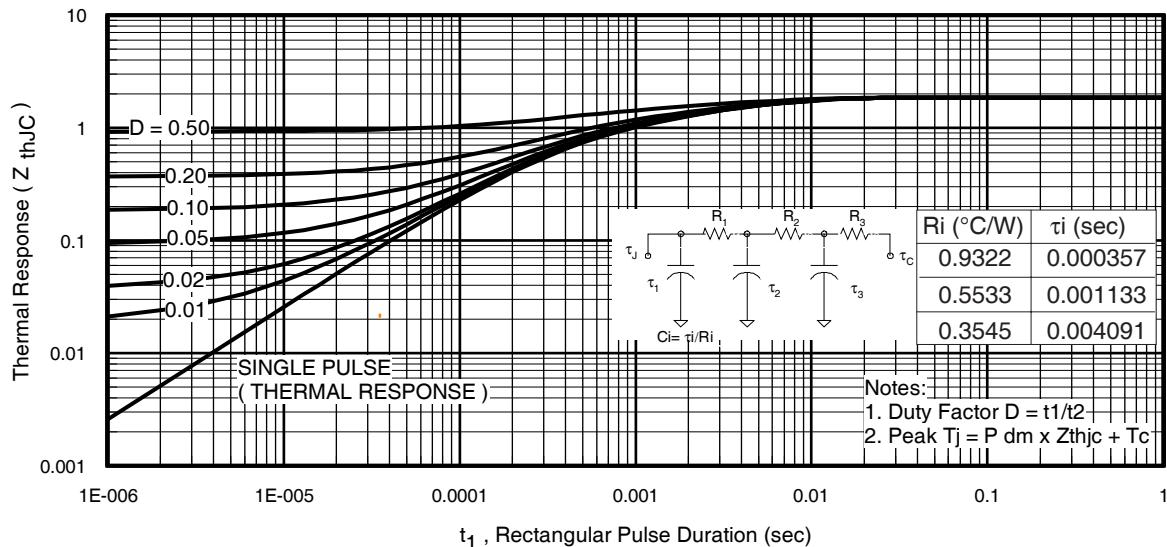
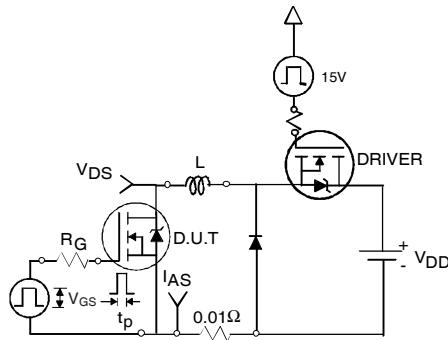

Fig 11. Maximum Effective Transient Thermal Impedance, Junction-to-Case
Fig 12a. Unclamped Inductive Test Circuit
- ① Repetitive rating; pulse width limited by max. junction temperature. (See fig. 11).
- ② Limited by $T_{J\text{max}}$, starting $T_J = 25^\circ\text{C}$, $L = 0.13\text{mH}$, $R_G = 25\Omega$, $I_{AS} = 31\text{A}$, $V_{GS} = 10\text{V}$. Part not recommended for use above this value.
- ③ $I_{SD} \leq 31\text{A}$, $di/dt \leq 1070\text{A}/\mu\text{s}$, $V_{\text{DD}} \leq V_{(\text{BR})\text{DSS}}$, $T_J \leq 175^\circ\text{C}$.
- ④ Pulse width $\leq 1.0\text{ms}$; duty cycle $\leq 2\%$.
- ⑤ $C_{\text{oss eff.}}$ is a fixed capacitance that gives the same charging time as C_{oss} while V_{DS} is rising from 0 to 80% V_{DSS} .
- ⑥ Limited by $T_{J\text{max}}$, see Fig.12a, 12b, 15, 16 for typical repetitive avalanche performance.
- ⑦ This value determined from sample failure population. 100% tested to this value in production.
- ⑧ This is applied to D²Pak, when mounted on 1" square PCB (FR-4 or G-10 Material). For recommended footprint and soldering techniques refer to application note #AN-994.
3. Equation below based on circuit and waveforms shown in Figures 12a, 12b.
$Z_{thJC}(D, t_{av})$ = Transient thermal resistance, see figure 11)